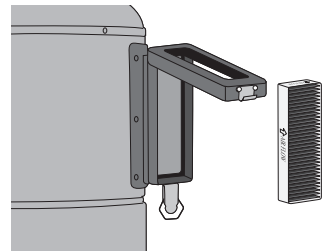

figure 13
2. Remove the used filter, and discard (**figure 13**).